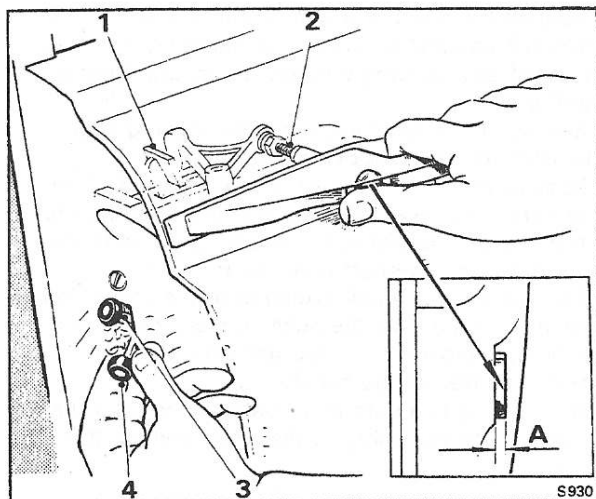

**Fig. S15** Location of sealant on exterior door handle and moulding (Silver Shadow II, Bentley T2 and Silver Wraith II)
1. Apply Bostik cement 1311 or its equivalent to the mating face of the handle to seal it to the moulding. Also apply the Bostik to the moulding to seal it to the door (see Fig. S15). Ensure that the sealant is kept away from the push button stem.